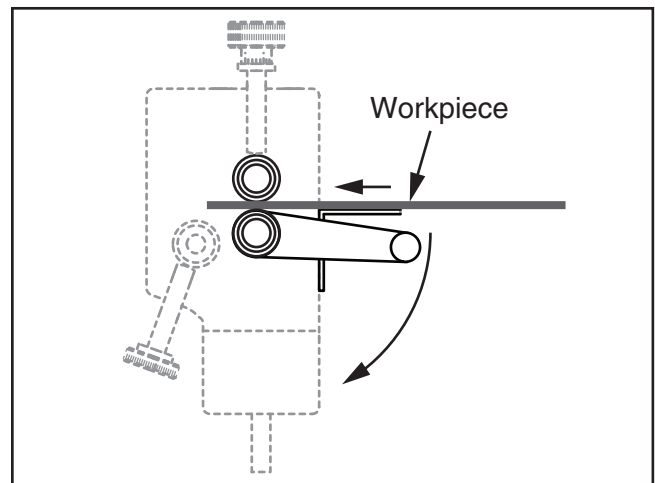

Figure 10. Leading edge of workpiece above rear roller.
3. Turn the hand crank clockwise to feed the workpiece until its leading edge is just above the rear roller, as illustrated in **Figure 10**.